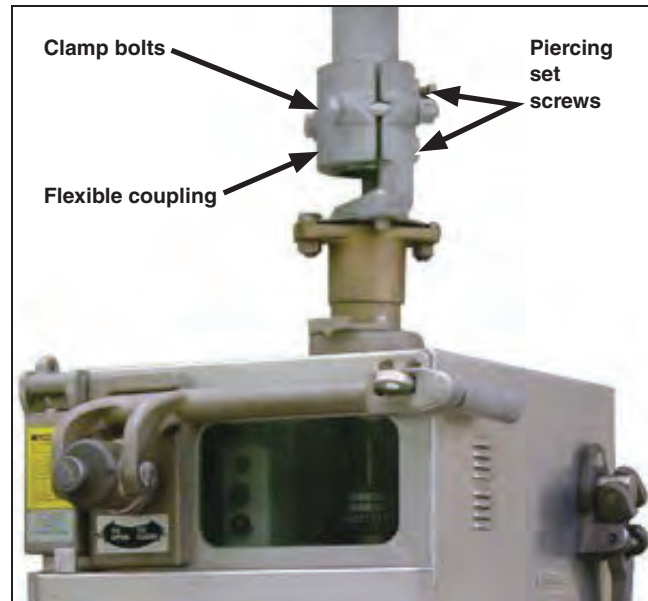

Figure 62. Tighten flexible coupling on operator output shaft. Tighten piercing set screws.
- STEP 2.** Tighten the flexible coupling clamp bolts on the output shaft of the operator equally so the clamp pulls down evenly. Then, tighten the associated piercing set screws, piercing the shaft, and continue tuning until a firm resistance is felt. See Figure 62.